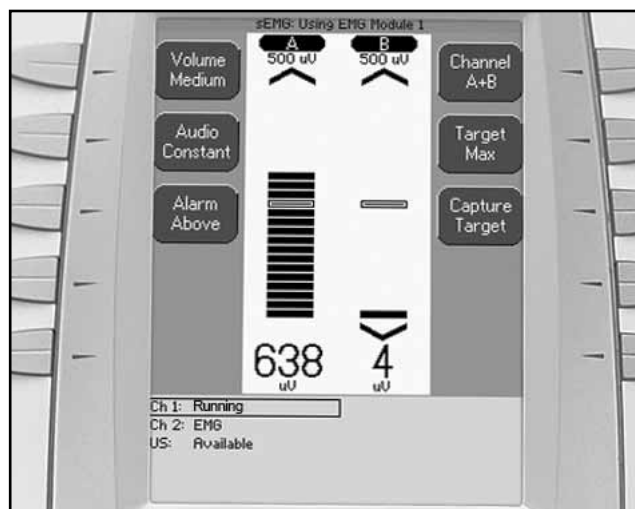

FIGURE 5.35A
10. The Audio Signal Generator and the attenuator should trigger the stim function of the Therapy System and Running will display in the selected channel. See Figure 5.35A.